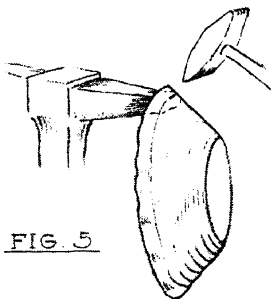

FIG. 5
9. Draw a guide line  $\frac{1}{4}$  inch from the edge (Fig. 5).
5. File the design on the end of the handle; then bend it to a right angle (Fig. 5).